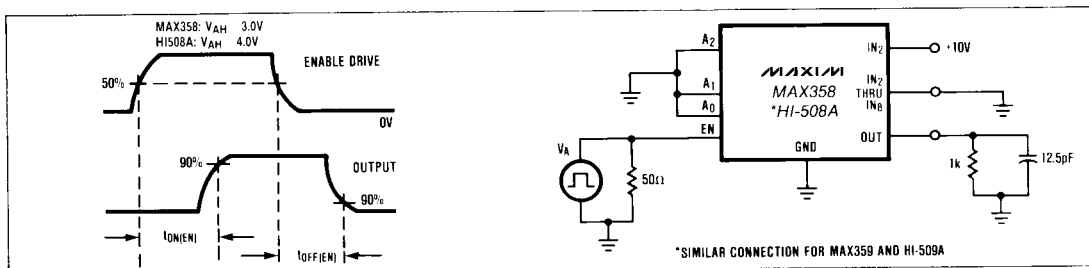

Figure 3. Enable Delay ( $t_{ON(EN)}$ ,  $t_{OFF(EN)}$ )
| Enable Delay (ON)                             | t ON(EN)               | (Figure 3)                                                                                                                                     | +25°CFull         |                 | 300        | 5001000       |                                    | 300        | 1000              | ns       |
| Enable Delay (OFF)                            | t OFF(EN)              | (Figure 3)                                                                                                                                     | +25°CFull         |                 | 300        | 5001000       |                                    | 300        | 1000              | ns       |